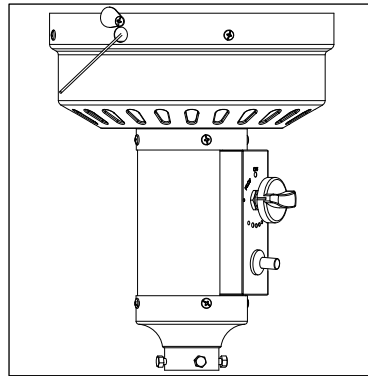

Figure 4
- b. As you are depressing the control knob, place long stem lighter into the ignition hole on the emitter screen to light the pilot (Figure 4).